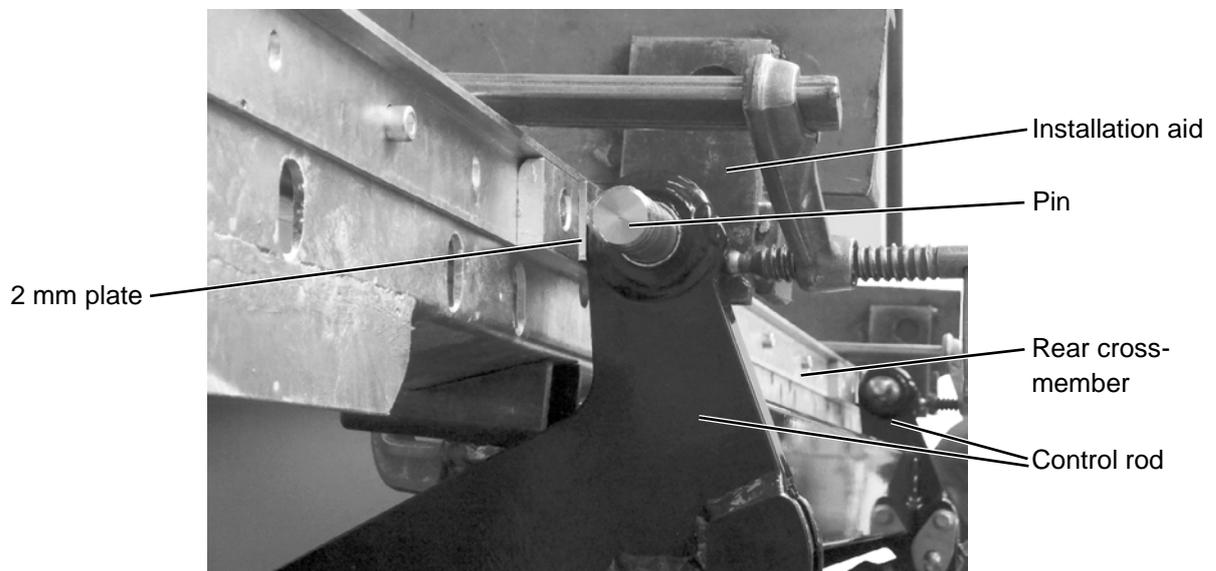

Figure 16: 2 mm spacer plates for assembly of a coated platform
- ▶ Place 2 mm plates between the control rods of the torsion frame and the superstructure as spacers (see Figure 16).
- ▶ Remove the pins between the control rods and the installation aids (see Figure 16, page 37).